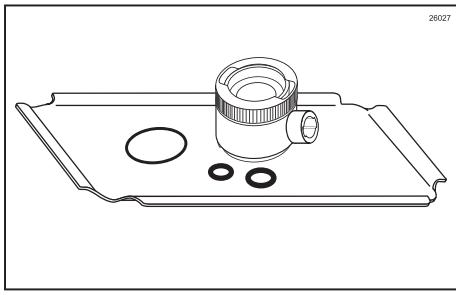

Figure 96
- Remove the o-rings and Injector Head and place them on a sanitary tray to dry. (See Figure 96.)